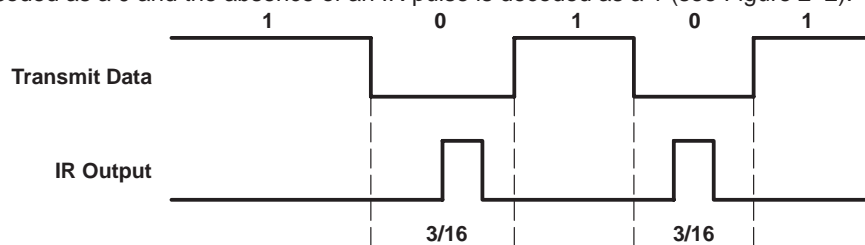

Figure 2–2. SIR Encoding
Data transfer occurs with a baud rate of up to 115.2 Kbps. The format of serial data is similar to the UART data format. Each data byte starts with a start bit (0), 1 byte of data, and then ends with at least a stop bit (1). Each serial data bit is encoded before transmission and decoded after being received. A 1 is decoded with no IR pulse and a 0 is decoded by sending 3/16th of one bit time IR pulse. Similarly, the received serial pulse is decoded as a 0 and the absence of an IR pulse is decoded as a 1 (see Figure 2–2).